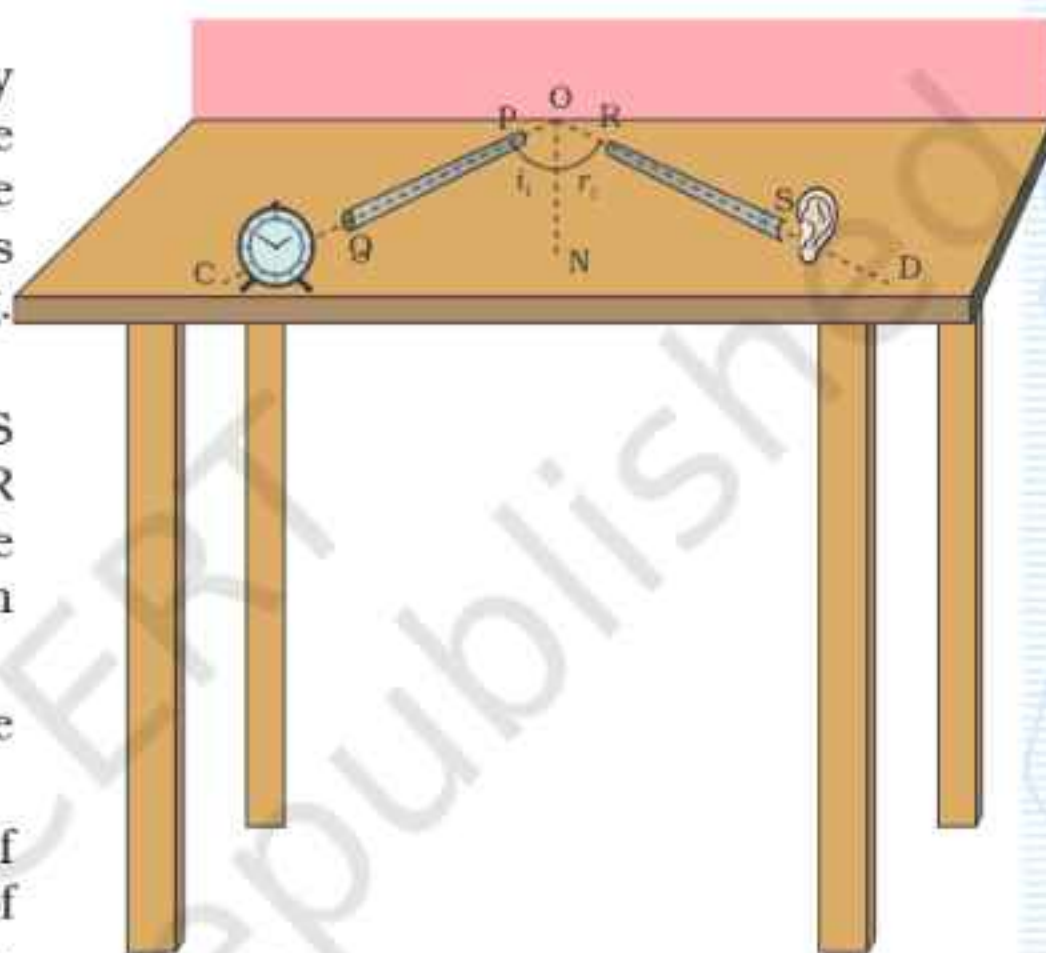

Fig. 44.2 : The experimental set-up
2. Using a chalk piece or a pencil, draw a line ON on the table (as shown in Fig. 44.2) normal to the wall surface.
4. Put one of the two plastic pipes (say PQ) along this line OC such that the end P of the plastic pipe is very close to point O on the wall. Now the axis of pipe PQ lies over the line OC (Fig. 44.2).